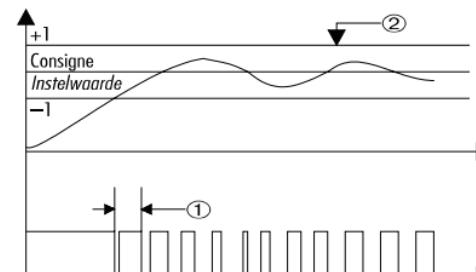

Figure 6
Voir figure 6 ①
Voir figure 6 ②